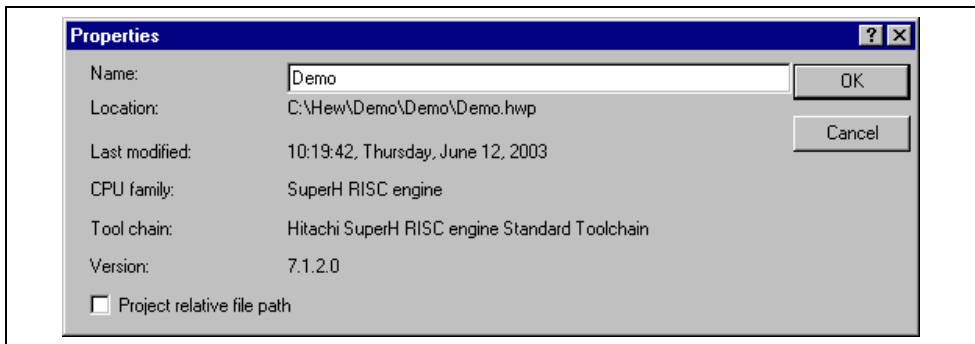

Figure 2.26: Properties Dialog
3. Click the "Project relative file path" checkbox to switch on or off the relative file path feature. (figure 2.26)